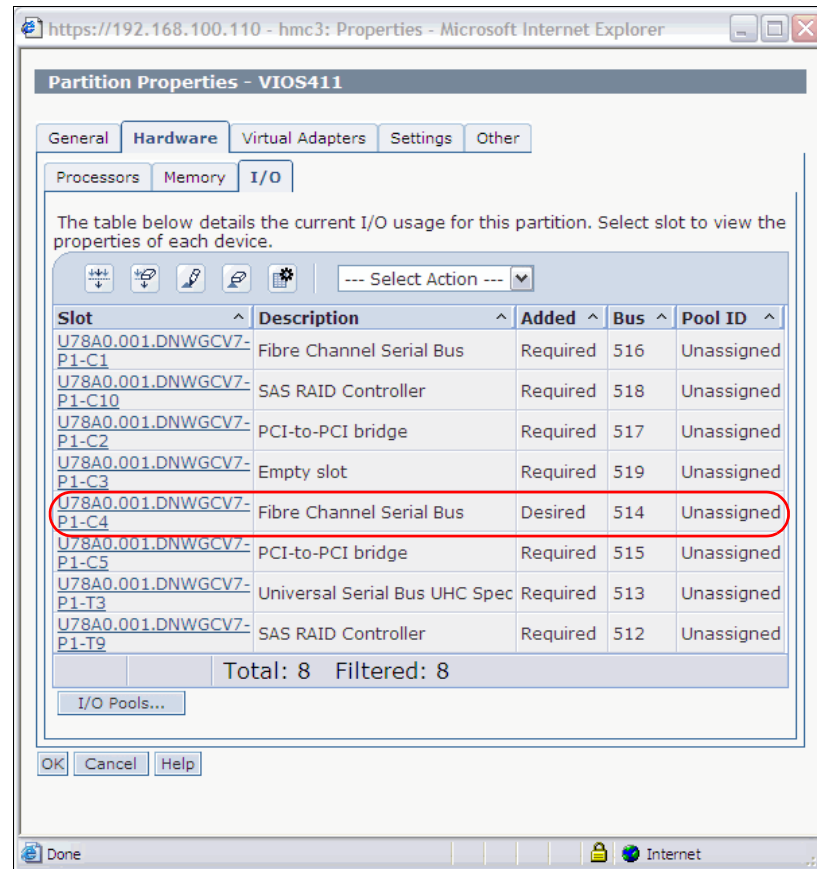

Figure 2-3 HMC Virtual I/O Server Physical Adapters panel
1. On the HMC, you will see a panel similar to Figure 2-3 if you display the physical adapters attached to the Virtual I/O Server. In our example, the highlighted Fibre Channel adapter in slot C1 will be used.